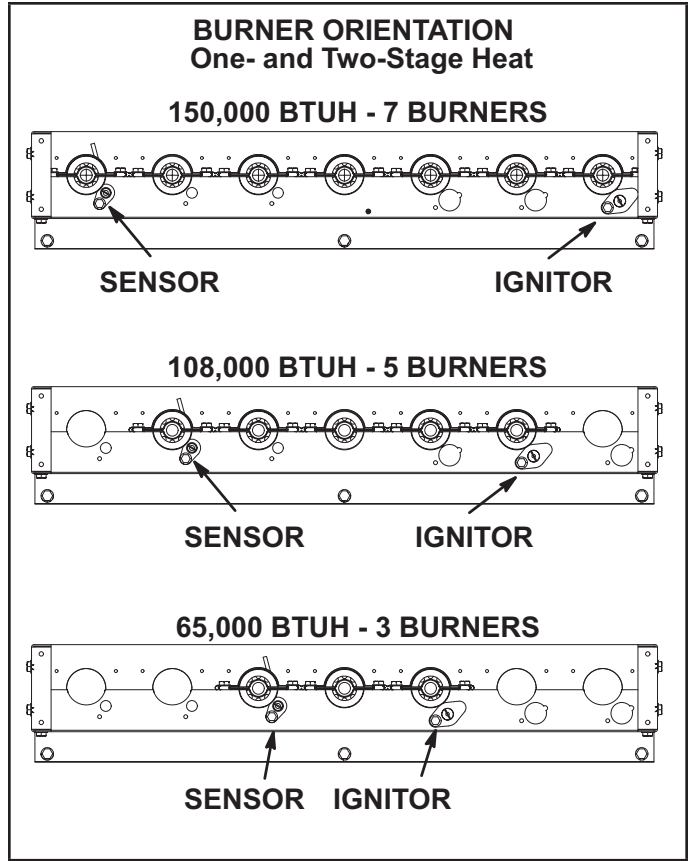

FIGURE 30
Limit controls are factory-set and are not adjustable. The primary limit is located to the right of the combustion air inducer. See FIGURE 30.
- 6 - Replace burners and screws securing burner. See FIGURE 30.